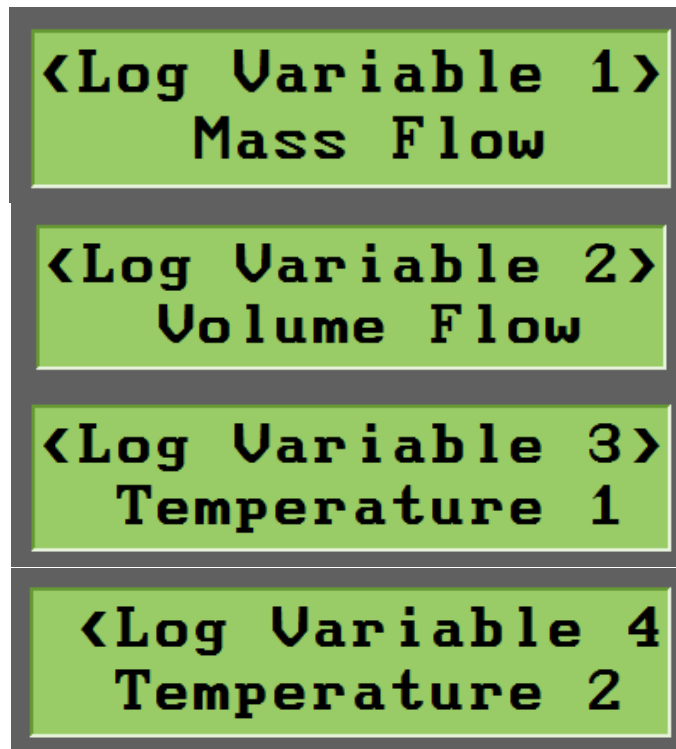

Figure 4-8. Logging Variables
8. The next four parameters define the variables that will be recorded during a logging session. A logging session is defined as an entire day. The unit will record all defined variables, at the interval selected above, and save them to a file with the format of YYYYMMDD.log at the end of each day. You have the option to select four variables from the following list. See Figure 4-8 for a screen capture of how these menus will look on the SonoPro® handheld unit.